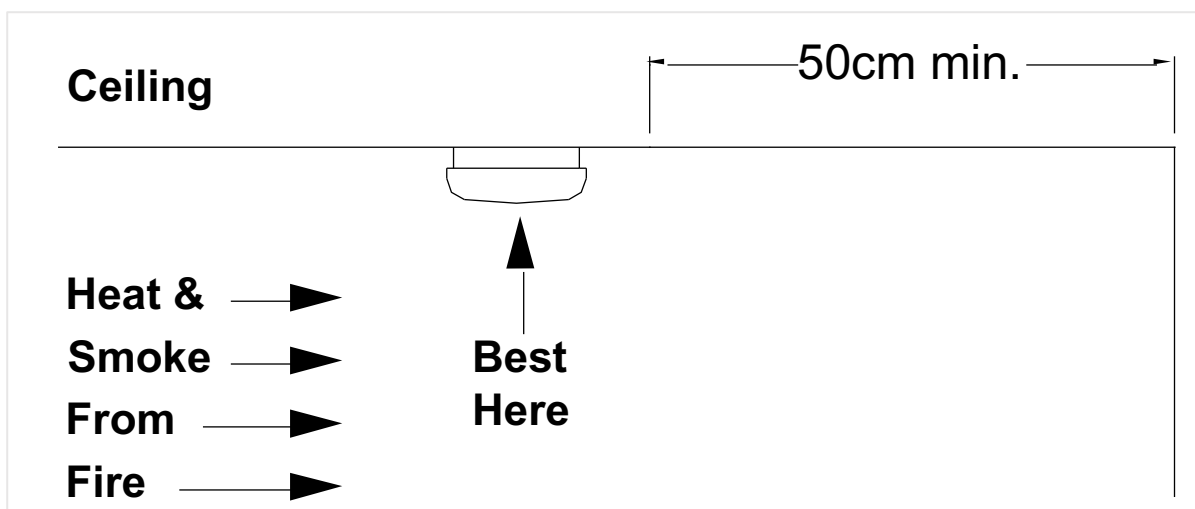

Fig. 3 – Alarm location from walls
- If some of your rooms have sloped, peaked, or gabled ceilings, try to mount alarms 0.9 m from the highest point of the ceiling measured horizontally. (see Fig. 3).
- In dead air ceiling or wall spaces, which are often at the top of a peaked roof or in apex of ceilings and walls. Dead air may prevent smoke from reaching the alarm. See Fig. 3 for the recommended installation location in such situations.